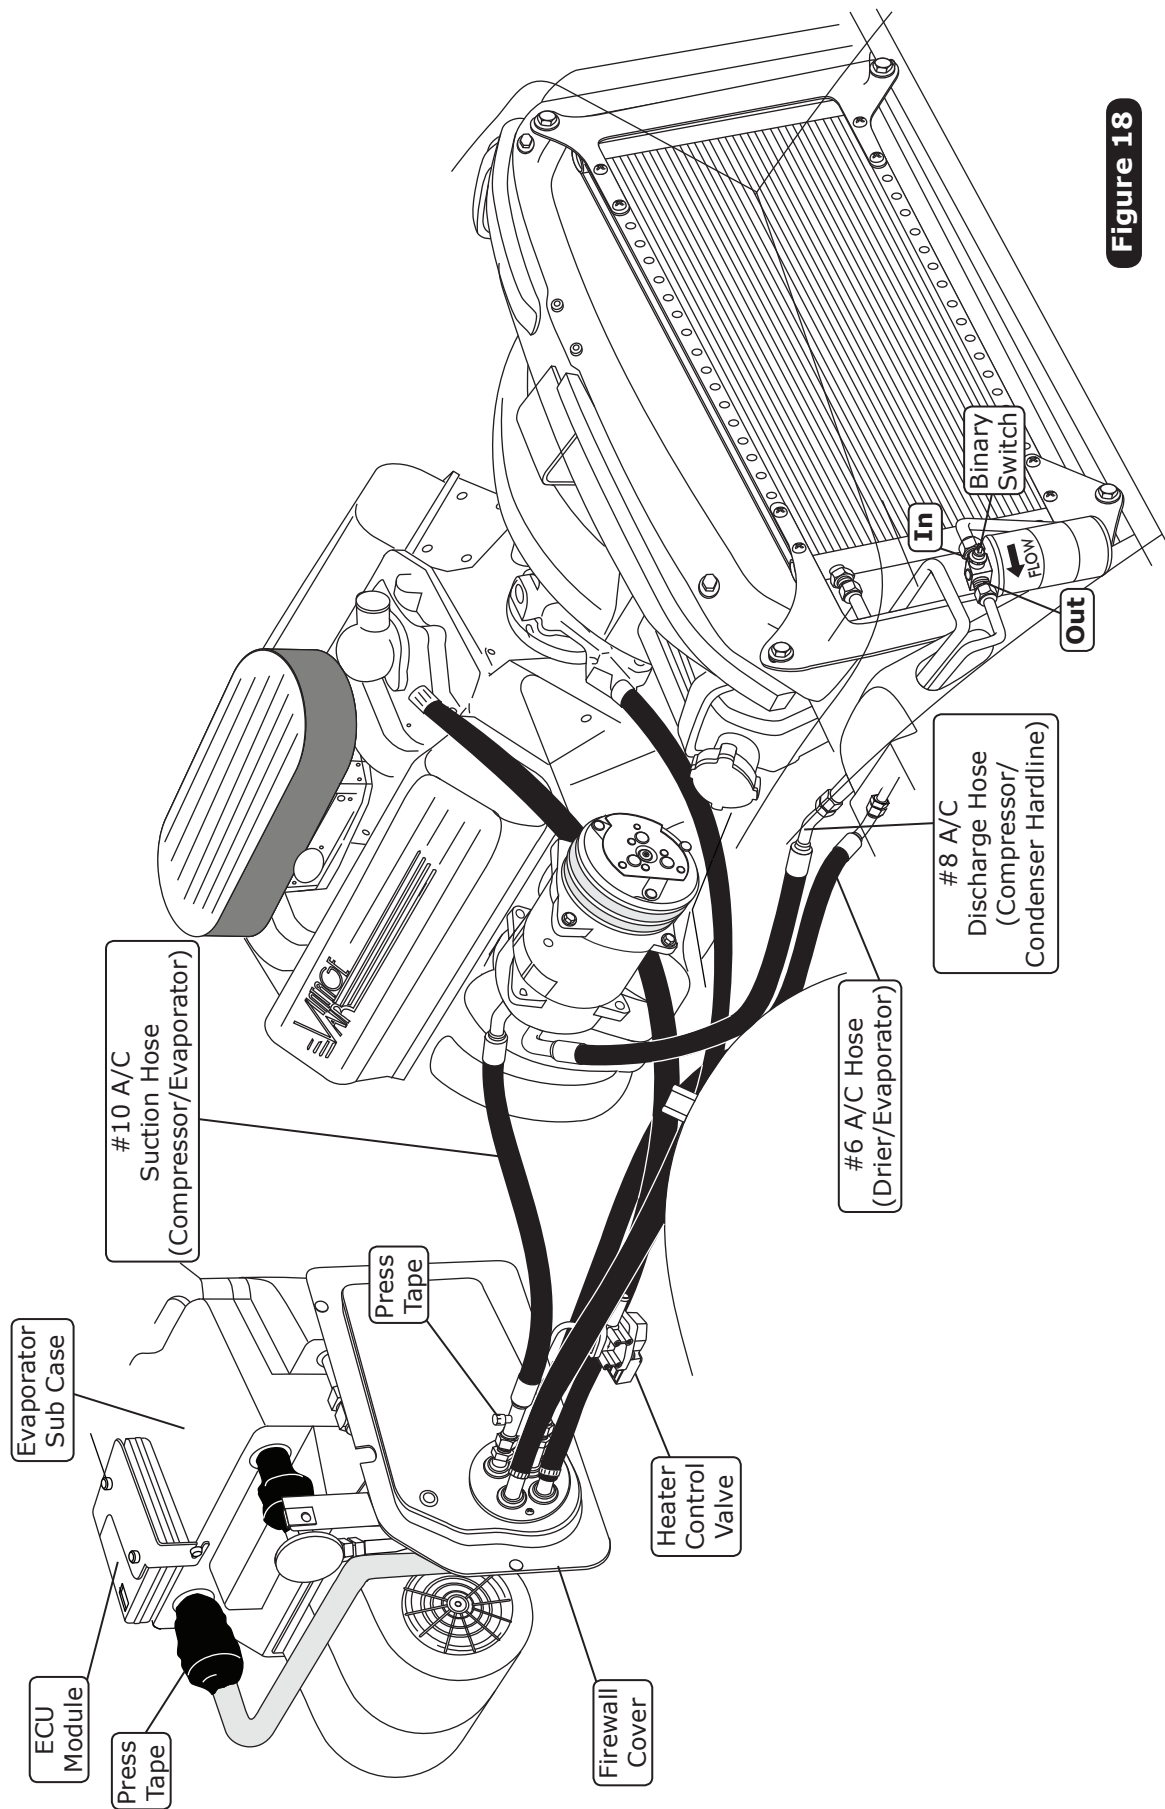

Figure 18
1. Locate the #8 compressor A/C hose. Lubricate (2) #8 O-rings (See Figure 17, below) and connect the 135° female fitting to the #8 discharge port on the compressor. Then route the 45° female fitting to the #8 condenser hardline coming through the core support (See Figure 18, Page 20). Tighten each fitting connection as shown in Figure 17, below.
2. Locate the #10 compressor A/C hose. Lubricate (2) #10 O-rings (See Figure 17, below) and connect the 45° female fitting with 134a service port to the #10 suction port on the compressor. Then route the straight fitting to the #10 evaporator hardline coming through the firewall (See Figure 18, Page 20). Tighten each fitting connection as shown in Figure 17, below. **NOTE: Wrap the #10 fitting connections at the firewall with press tape (See Figure 18, Page 20).**
3. Locate the #6 A/C hose. Lubricate (2) #6 O-rings (See Figure 17, below) and connect the 90° fitting to the #6 hardline coming through the core support from the drier. Attach the straight fitting with 134a service port to the #6 evaporator hardline coming through the firewall (See Figure 18, Page 20). Tighten each fitting connection as shown in Figure 17, below. Use a #6 Adel clamp to secure the #6 A/C hose to the inner fender well as shown in Figure 18, Page 20. Secure the Adel clamp to the inner fender using a 10-32 x 1/2" machine screw and nut.